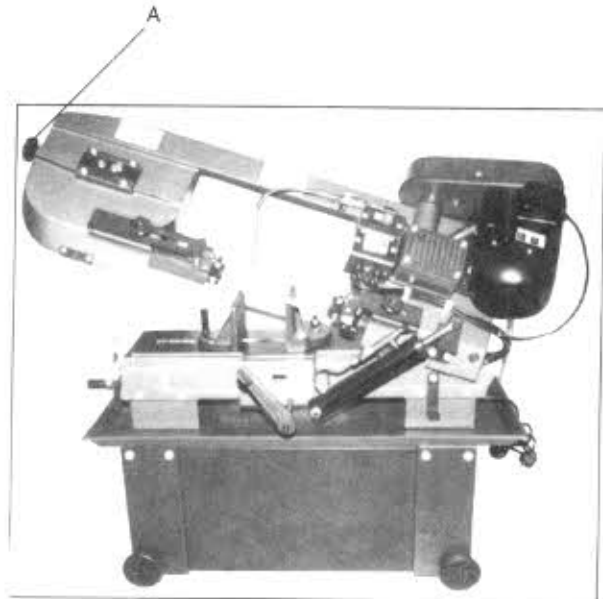

Fig.9
3. Turn blade tension knob (A, Fig 9) one and three quarter to two revolutions clockwise. This equals approximately 800kgs. of blade tension.